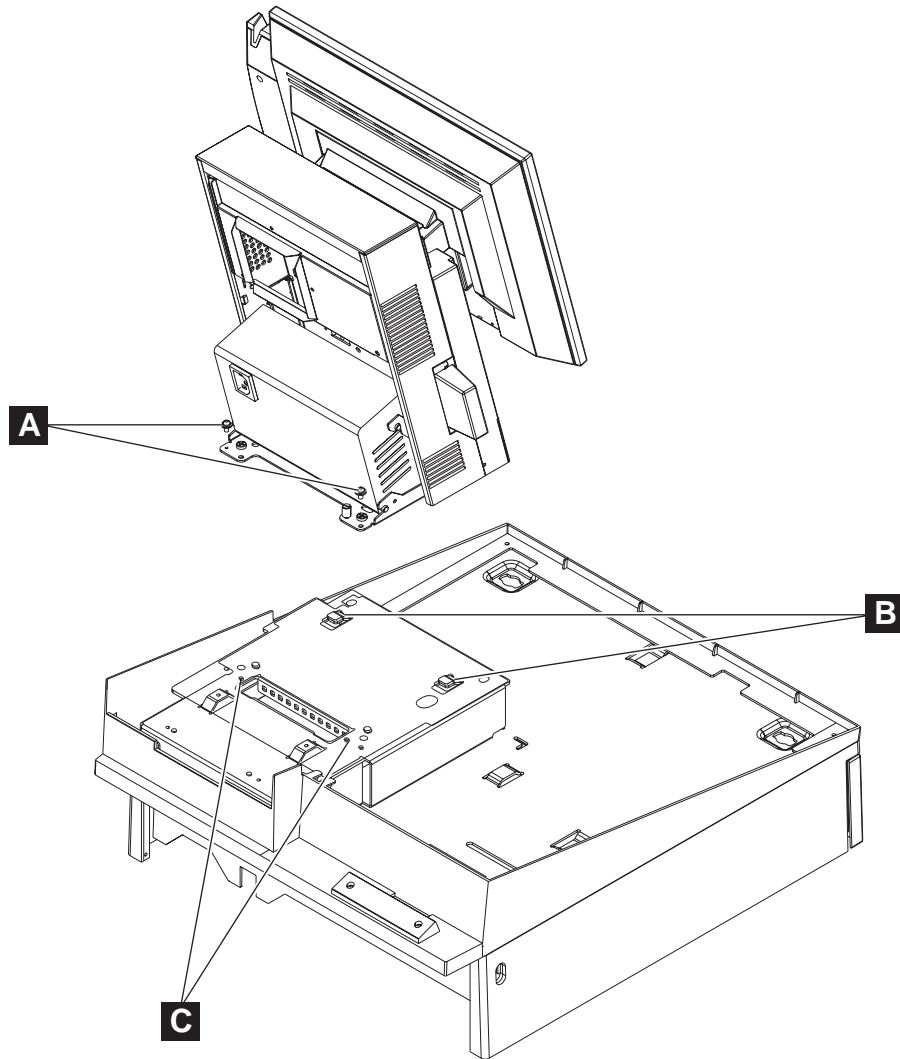

Figure 39. Installing the SurePOS 500 onto the integration tray
10. Attach the SurePOS 500 to the mounting plate as shown in Figure 39 on page 56. Slide the unit from the back toward the front until the frame fits into the tabs **B**, and the screws **A** and mounting holes **C** are lined up. Tighten the